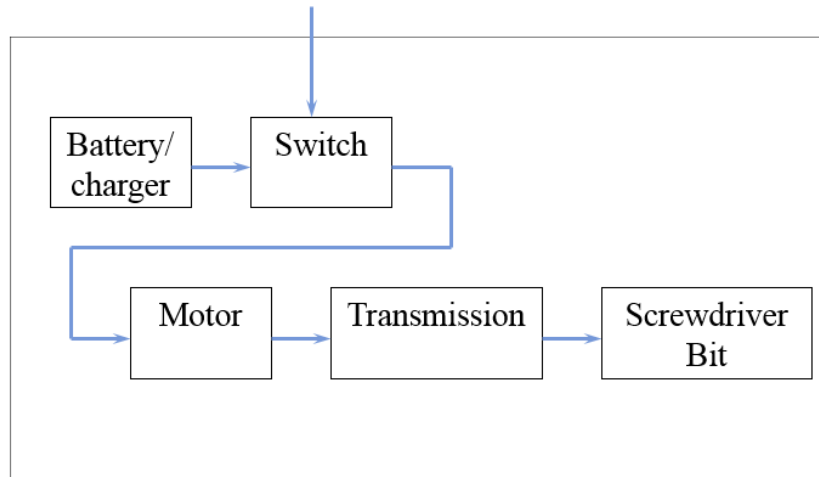

Fig Q4: Cordless Screwdriver Sub-Systems and Interactions
- d) By way of an example, consider a case of a cordless hand drill. This is a tool used for household projects, it has a battery pack which is rechargeable. Fig Q4 shows the various subsystems and their interactions in the whole design. Outline four guidelines that can be considered at the design stage, each for; (8 marks)